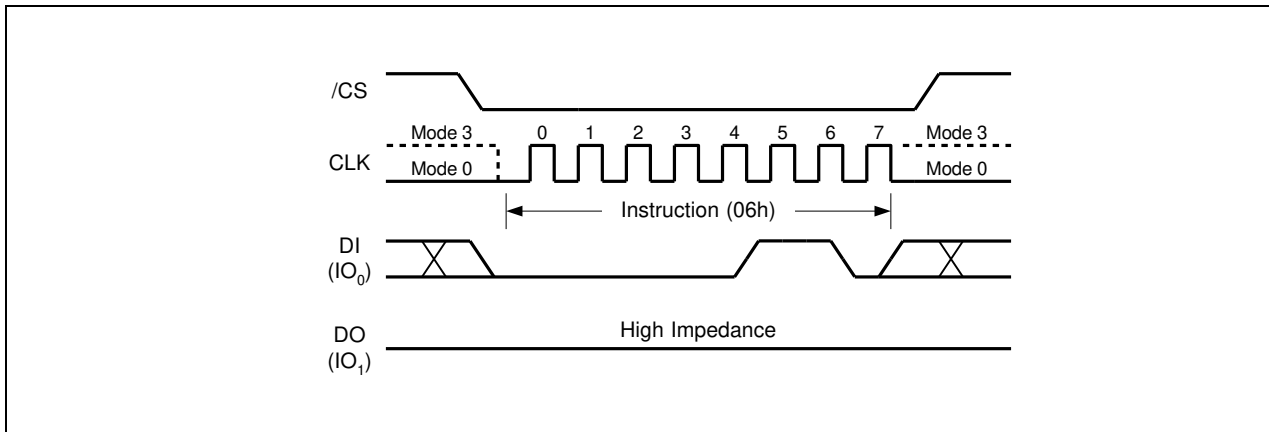

Figure 5. Write Enable Instruction for SPI Mode
The Write Enable instruction (Figure 5) sets the Write Enable Latch (WEL) bit in the Status Register to a 1. The WEL bit must be set prior to every Page Program, Quad Page Program, Sector Erase, Block Erase, Chip Erase, Write Status Register and Erase/Program Security Registers instruction. The Write Enable instruction is entered by driving $\overline{\text{CS}}$ low, shifting the instruction code "06h" into the Data Input (DI) pin on the rising edge of CLK, and then driving $\overline{\text{CS}}$ high.